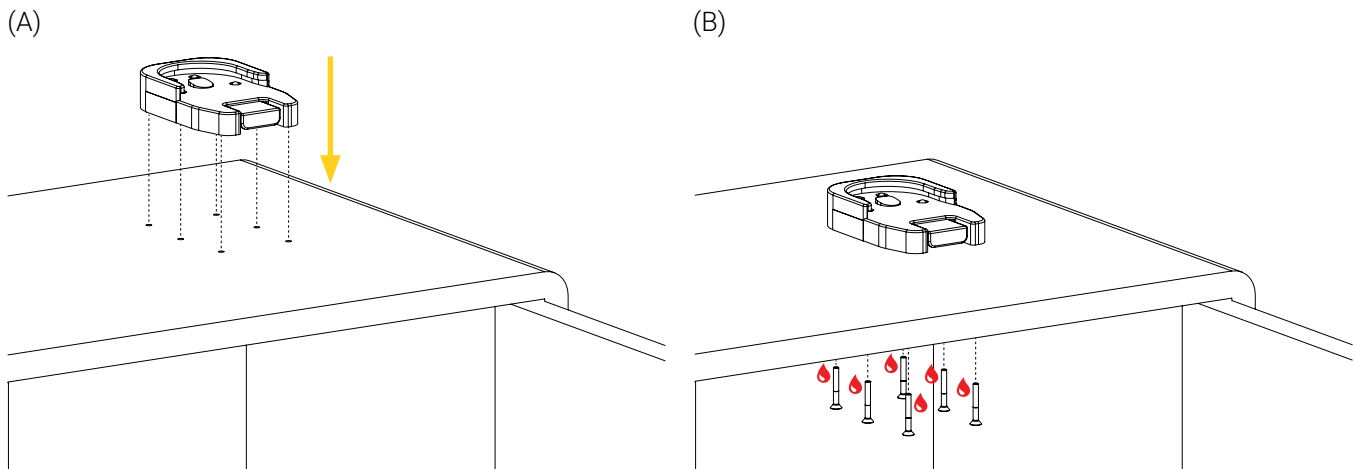

Figure 12: Installation of the Micro Base on a counter top
5. Remove the drilling template and drill six (6) holes perpendicularly, using a drill and 13/64 in. D drill bit.
8. Place the Micro Base on the installation surface and align the drilling holes (Figure 12 A).
9. Secure the Micro Base on the installation surface (Figure 12 B):
- Insert six (6) 18-8 stainless steel 1/4-20 in. flat head screws coated with high strength thread lock adhesive (🔥) from under the installation surface, then tighten the screws in a cross-pattern using a Phillips-head screwdriver.
- Insert six (6) 10-32 alloy steel screws coated with high strength thread lock adhesive (🔥) from under the installation surface, then tighten the screws in a cross-pattern using a Phillips-head screwdriver.